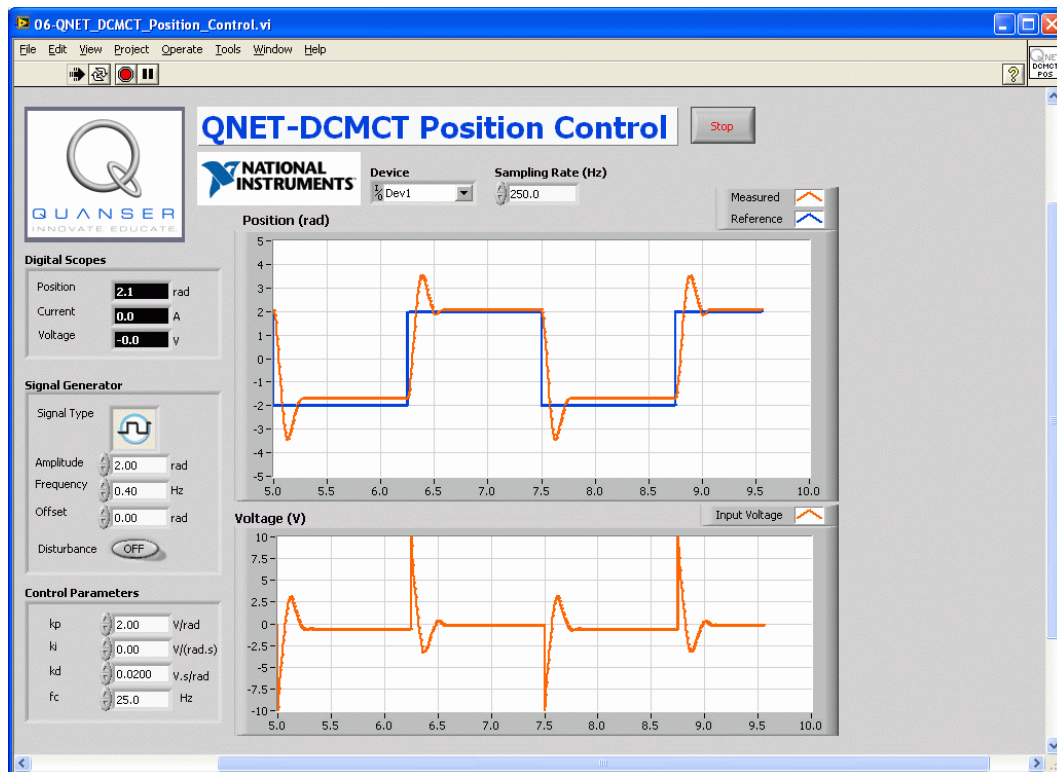

Figure 4.3: Virtual instrument for DC motor position control
Tracking a reference position square wave using PID control is first examined in this laboratory. Then, disturbance effects using PD and PID are studied through direct manual interaction or a simulated using a control switch in the VI. The LabVIEW virtual instrument for position control is shown in Figure 4.3.
- Run the QNET\_DCMCT\_Position\_Control.vi. The DC motor should be rotating back and forth and the scopes on the VI should appear similarly as shown in Figure 4.3.